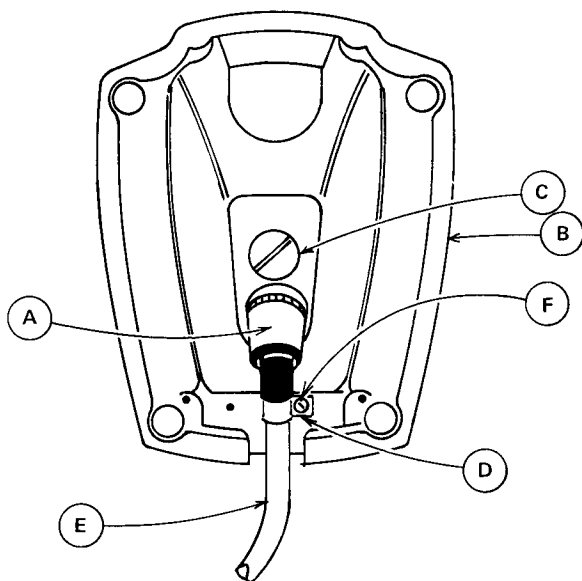

Figure 1—Assembly of models 418 and 419
1. Refer to Figure 1.
2. Push cable connector (A) through the large hole in the stand (B) from the bottom so several inches of cable extends beyond top of stand.
4. Place microphone mounting screw (C) into the base of the stand and screw securely into microphone.
5. Place cable strain relief clamp (D) over cable (E) and turn screw (F) partially into tapped hole in base of stand.
6. Take up slack in cable (E). With cables employing the Electro-Voice "quick-change" connector, slack should be taken up until the cable's flex relief is pulled taut as shown in Figure 1. Only in this manner will adequate clearance between the connector and stand's mounting surface be obtained. The connector and cable will not be damaged by normal tension required for clearance.
7. Tighten cable strain-relief clamp (D) to secure cable.